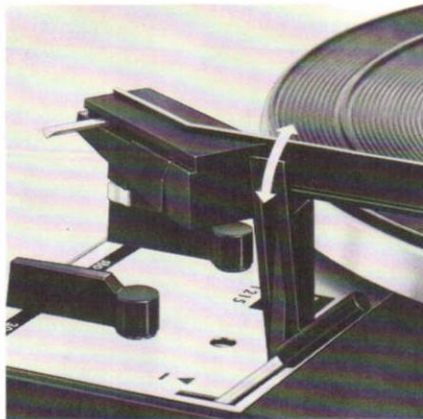

Fig. 7
Select the appropriate turntable speed (2), set the record size selector (13) to 7", 10" or 12" resp. (17, 25 or 30 cm), depending on the size of the record you want to play, and unlock the tonearm (Fig. 7).
Note: After a single record has played, or after the last record in a stack has played, the tonearm will return automatically to its rest and the motor will shut off. It is advisable then to lock the tonearm on its rest (Fig. 7).